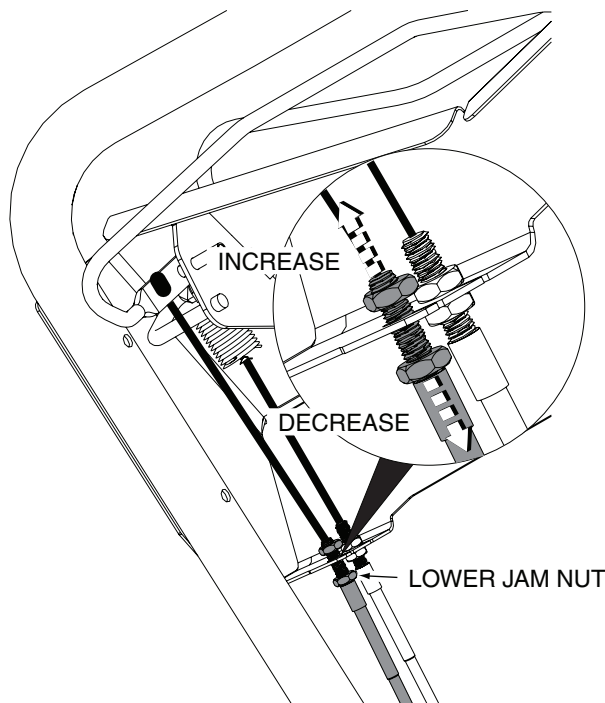

Figure 6-10. Self-Propel Drive Cable Adjustment
8. Adjust the cable by moving the threaded shaft in the hole in the handle bar bracket, up to increase tension and down to decrease tension on the cable. See Figure 6-10.
11. While holding the cable in place, turn the lower jam nut until it is tight against the handle bar bracket. See Figure 6-10.